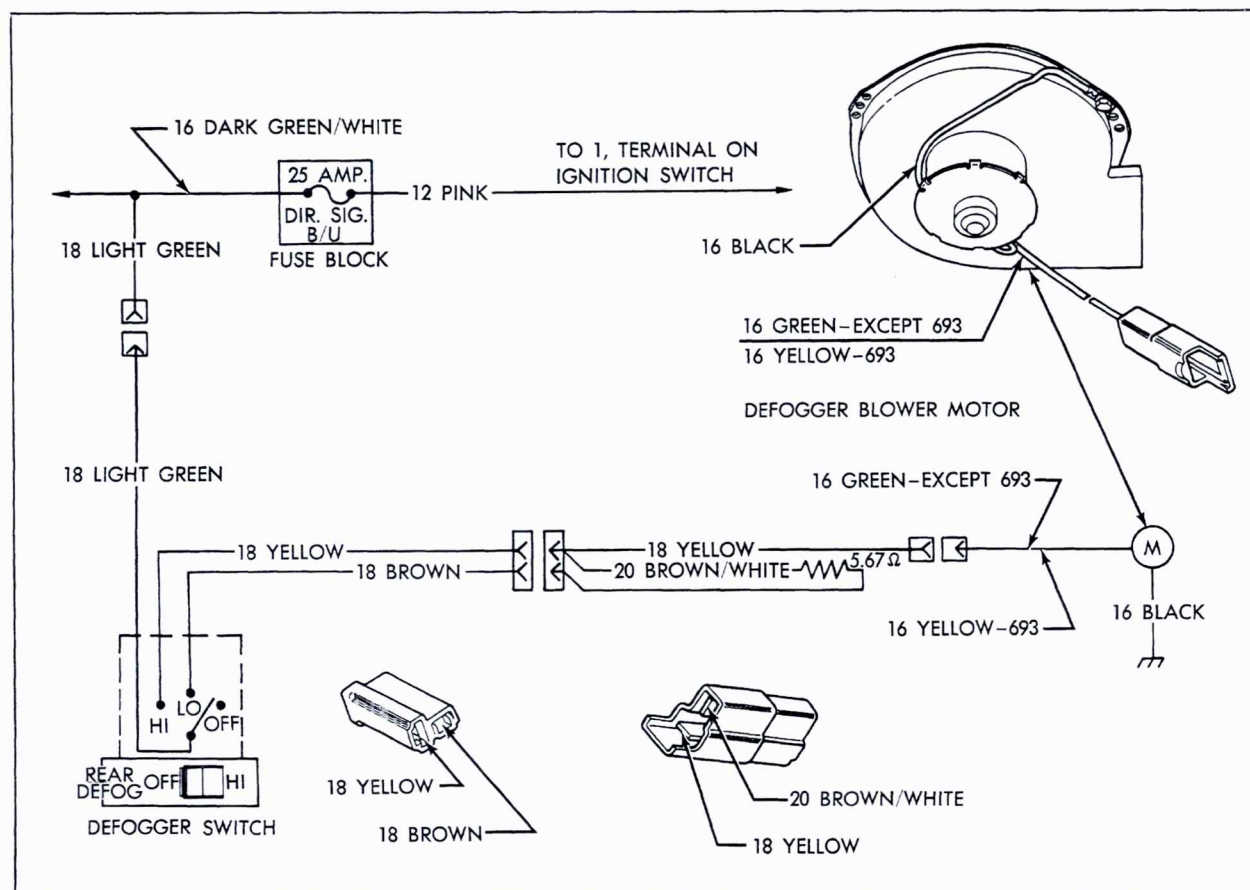

Fig. 15-50 Rear Window De-Fogger Diagram
The switch for controlling the Rear Window De-Fogger is located in the instrument panel bezel on all cars except 697 styles. When the switch is to the far left position, the De-Fogger is OFF. Moving the switch to the center provides LOW blower speed, and to the right, HIGH blower speed. The wiring diagram for the Rear Window De-Fogger is illustrated in Fig. 15-50.
3. Low and high speeds in the Rear Window De-Fogger are provided by a resistance type and ordinary wire in the wiring assembly, Fig. 15-50.